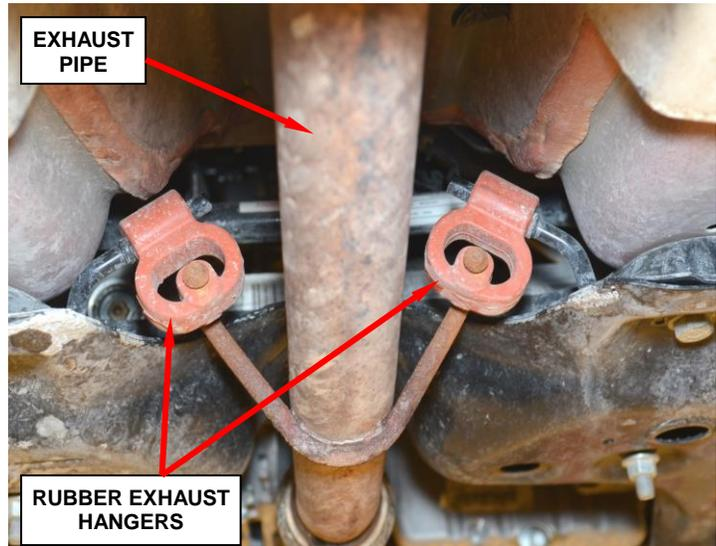

Figure 4 – Rubber Exhaust Hangers (front hanger shown)
13. Disconnect all of the rubber exhaust hangers and lower the exhaust system to gain access to the gear shift module (Figure 4).